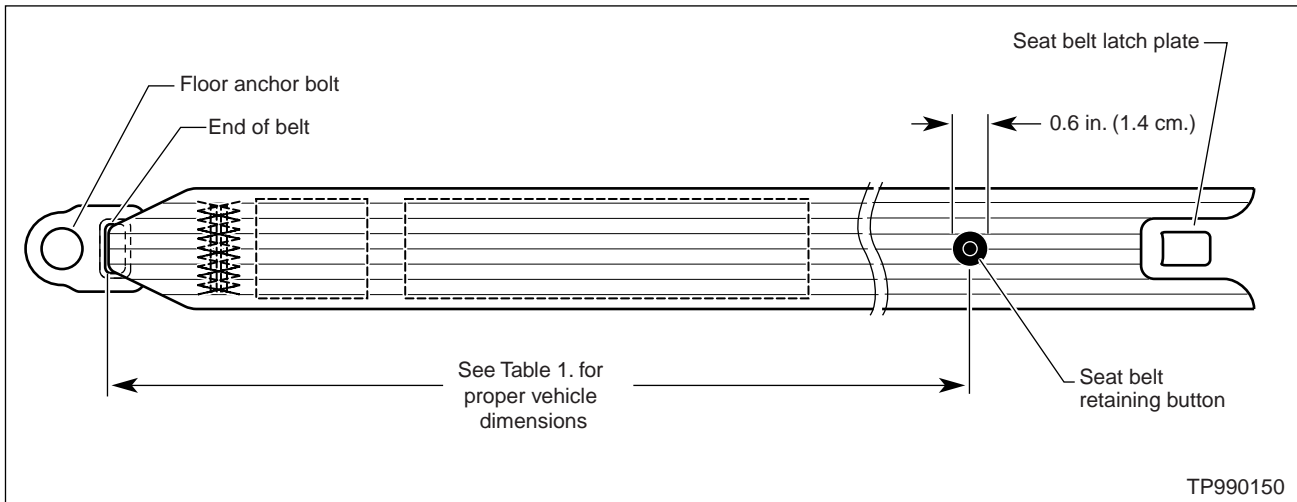

Figure 1 – Location of the seat belt retaining button and latch plate.
- Find the “witness mark” (the old hole) for the old button, using the information contained in Figure 1 and Table 1 (page 3)